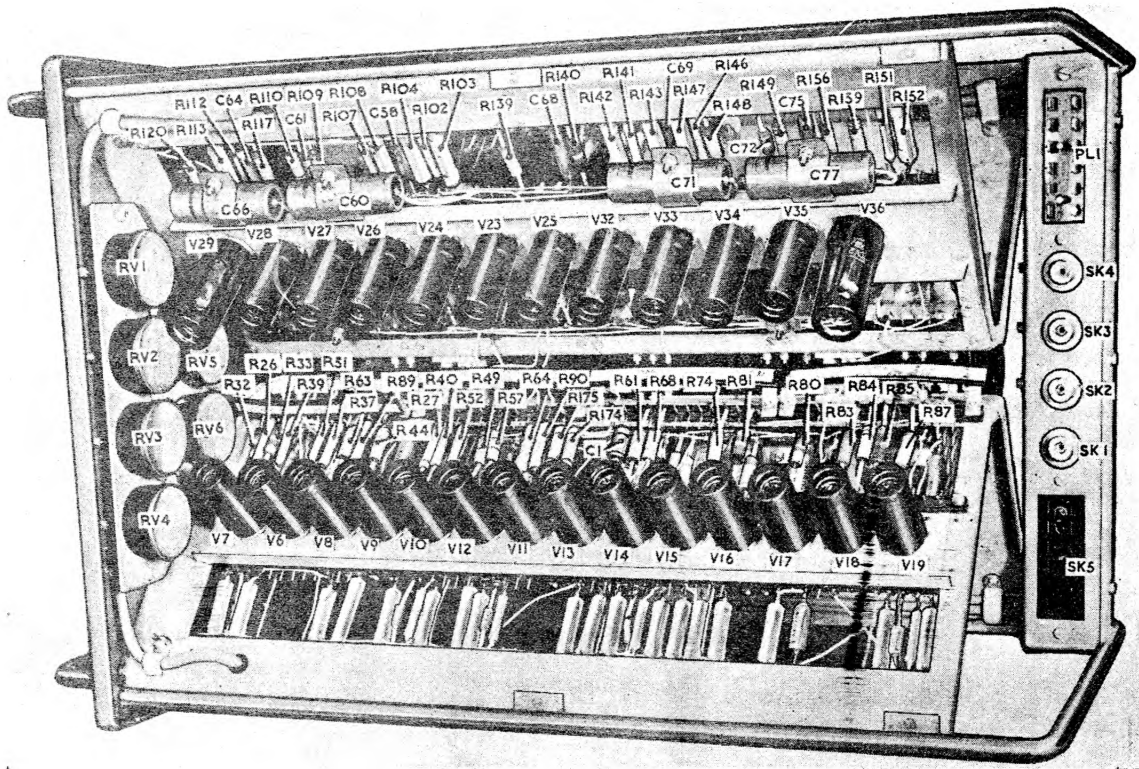

Fig. 2. Trigger unit 4413: top view
2. The unit is situated in rack assembly 4411 in the radar office. In contrast to the vertical plate type of chassis, trigger unit 4413 has four small chassis running from front to rear forming, in cross section, an X-shape (fig. 2). This construction has the advantage that components are more readily accessible, and tendencies to overheating due to confined space are minimized.